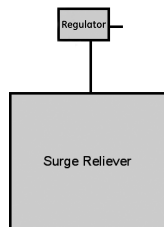

Figure 3
- B. See figure 3. With a pressure source at a higher pressure a pressure regulator can regulate pressure to the jacket. See instruction W-887-15LH-B00-1 if this method is chosen.